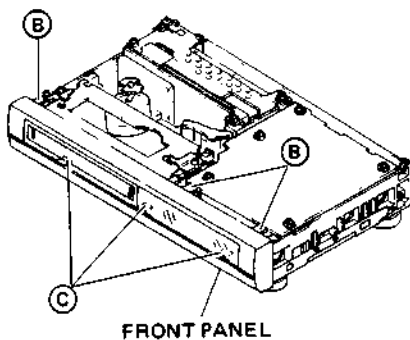

Fig. 1-1-2 Front panel
2. Carefully disengage 3 tabs (B) of the front panel assembly from the upper side of the chassis.
3. Refer to Fig. 1-1-2 and pull the front panel assembly forward you to disengage 3 tabs (C) of the front panel assembly from the bottom side of the chassis, then remove the front panel assembly.